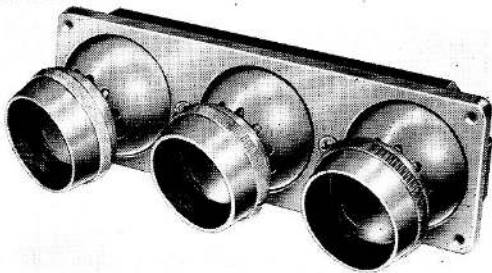

Fig. 1. Lamp, reading, G.E.C., Type 3749
1. These lamp units shown in Fig. 1 and 2 provide individual reading lights for passengers in certain types of military transport aircraft. The units are mounted in convenient positions above the passenger seats and each lamp can be independently operated by a push ON/OFF switch.